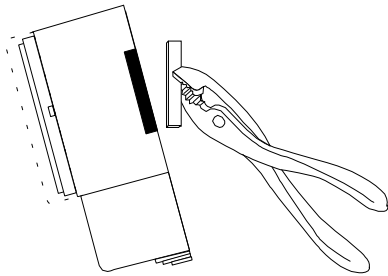

Figure 8: Removing DIN Rail Knockouts
4. Using blunt-nose pliers, remove the break-away tabs from the housing. See Figure 8.